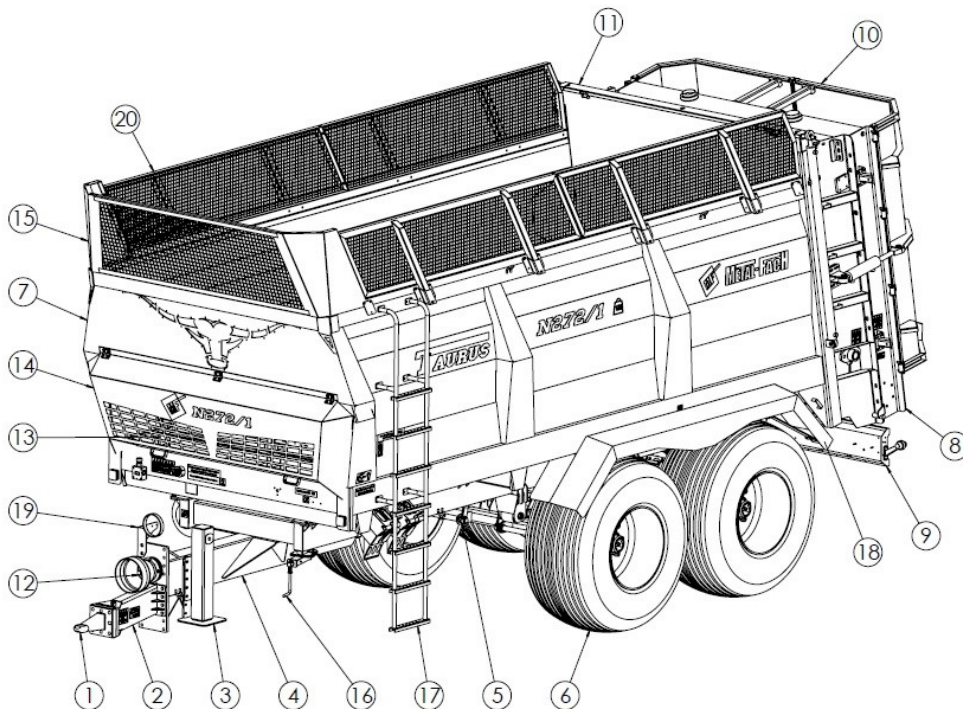

Figure 5 The main components of the manure spreader
The components of the spreader are shown in Figure 5. The main structural parts include a lower frame (4) with a tandem spring-mounted suspension (5) on which the spreader structure (7) is supported. A rigid hitch (2), equipped with a fixed drawbar eye (1), is used for connection with the tractor's lower or upper hitch. It is also possible to mount the eye for a rotary and ball drawbar. A hydraulic support foot (3) is attached to the drawbar to support the spreader when it is not connected to the tractor, and to adjust the height of the drawbar during coupling. A fixed ladder (17) is installed on the left-hand side of the structure wall to inspect the load compartment and enter the inside of the structure during cleaning or maintenance works. There is a hydraulically controlled gate (11) at the rear of the structure, to separate the loaded material from the beaters and prevent it from falling out during transport. The main operation component is the spreading beater unit (10) with two vertical augers. The loaded material is moved towards the beater unit by the chain feeder (13) fitted to the floor of the spreader structure. The beater unit is fitted with hydraulically controlled protective shields (10) to be used as spreading limiters (deflectors) during operation.